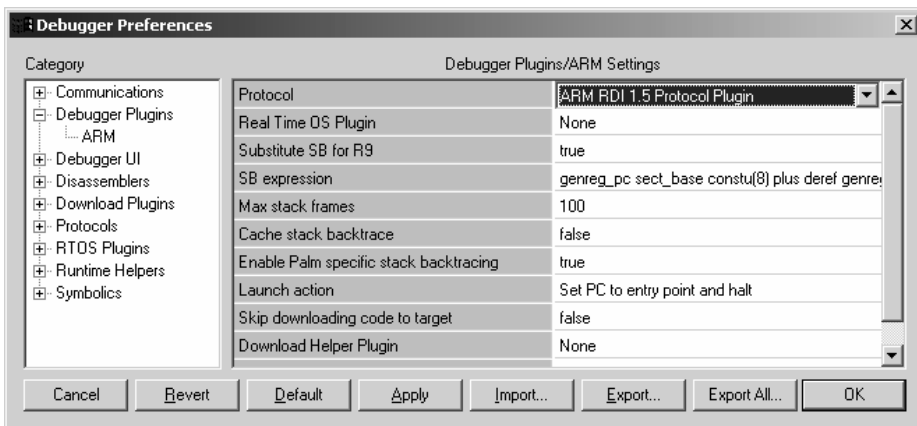

FIGURE 22 Selecting the protocol for the ARM Debugger Plugin.
2. In the Category pane, select ARM under the Debugger Plugins entry. In the Debugger Plugins/ARM Settings pane, select ARM RDI1.5 Protocol Plugin as the protocol. See Figure 22.